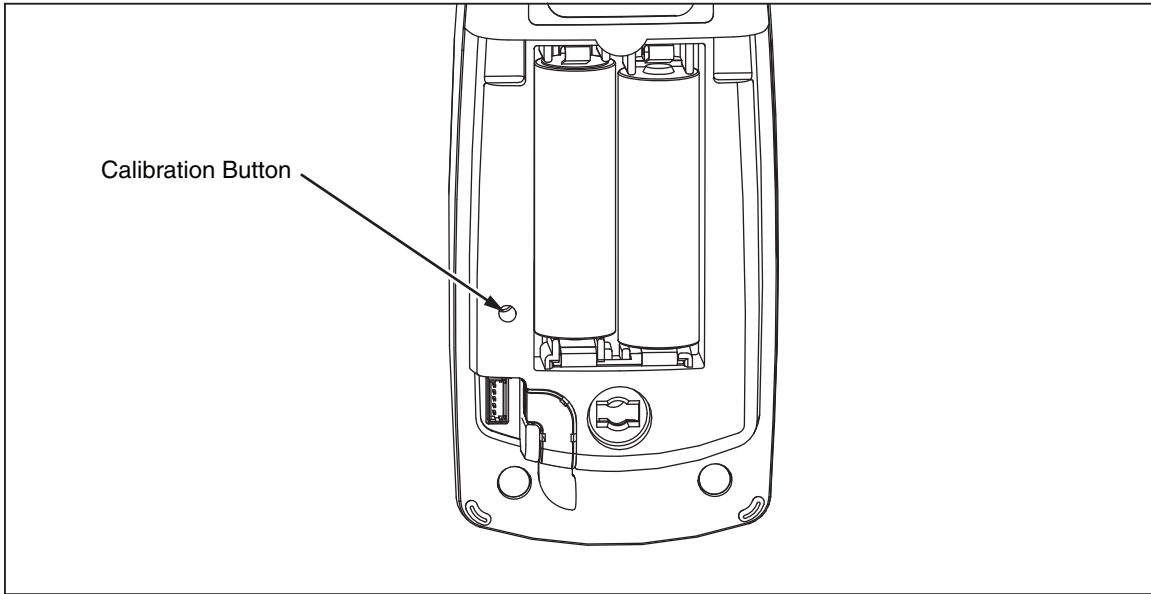

Figure 4. Accessing the Calibration Button
Use a small probe to press the calibration button once to enter the Meter's calibration mode. The calibration button is usually covered by the factory calibration seal. A second press of the button saves new calibration constants and exits calibration mode. See Figure 4.
4. Press the hidden calibration button with a probe to enter calibration mode. See Figure 4.